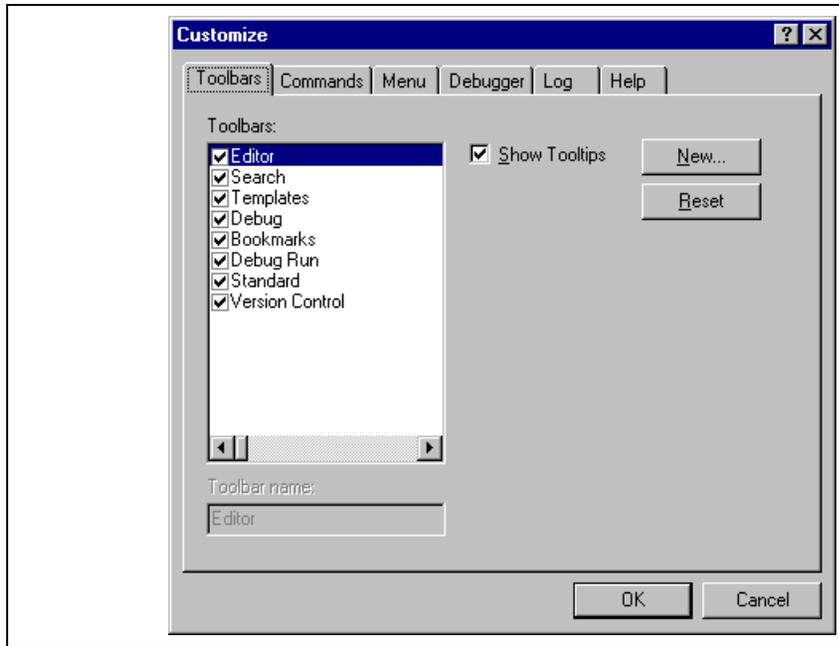
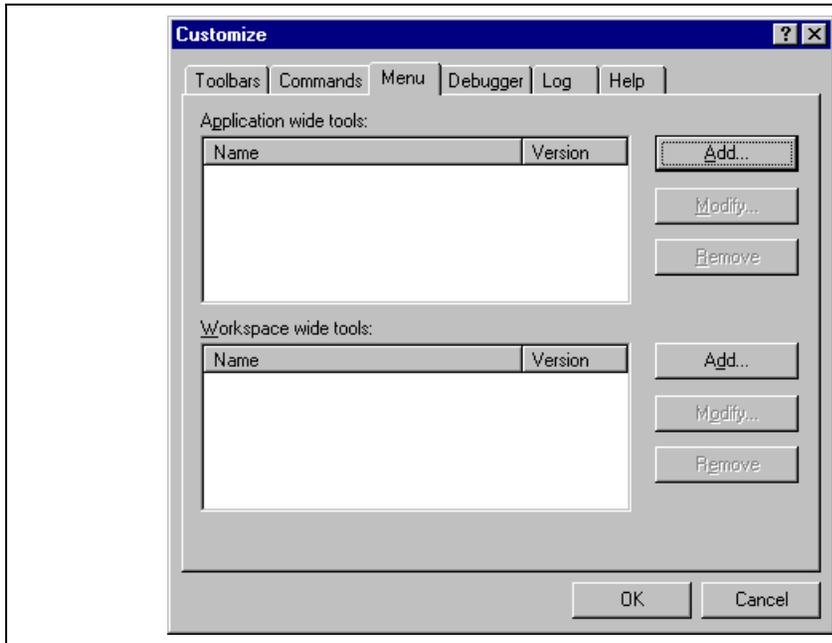

Figure 6.1: Customize Dialog Toolbars Tab
Figure 6.4: Customize Dialog Menu Tab
1. Select [**Tools->Customize...**]. The dialog shown in * MERGEFORMAT figure 6.1 will be displayed.
figure 6.1 changes to the "Delete" button. Then click the "Delete" button.
1. Select [**T**ools->**C**ustomize...]. The dialog shown in * MERGEFORMAT * MERGEFORMAT 6.1 will be displayed. Select the “Menu” tab (see figure 6.4).
1. Select [**T**ools->**C**ustomize...]. The dialog shown in * MERGEFORMAT figure 6.1 will be displayed. Select the “Menu” tab (see * MERGEFORMAT figure 6.4).